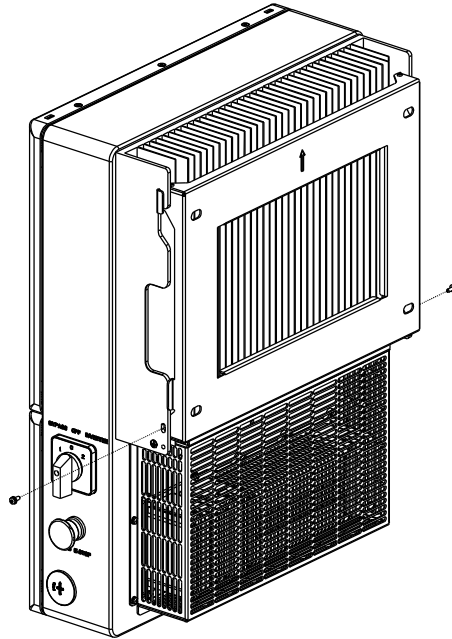

Figure 4.5 Wall Mount Bracket
2. Lift up the inverter (be careful to avoid body strain) and align the back bracket on the inverter with the convex section of the mounting bracket. Hang the inverter on the mounting bracket and ensure the inverter is secure (see Figure 4.5)